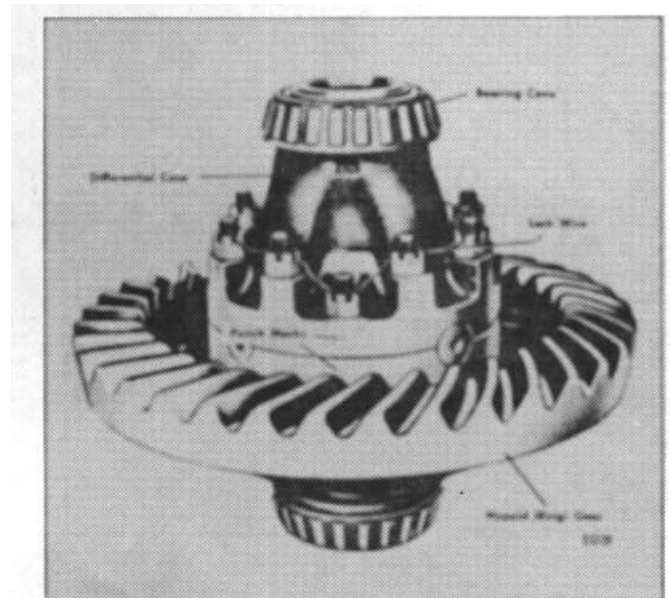
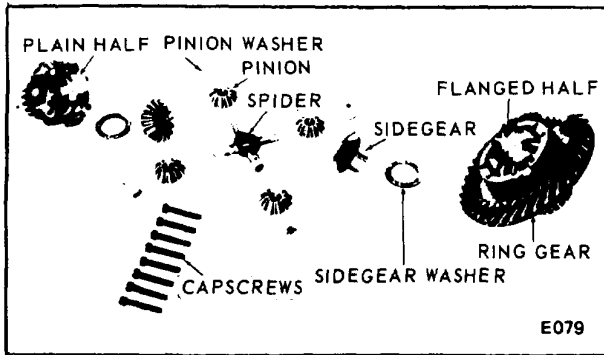

Figure 12.
Figure 13.
9. Mark differential case halves, cut lock wires, and remove bolts from case. Figure 12. Separate halves. Figure 13 is an exploded view of the differential assembly.